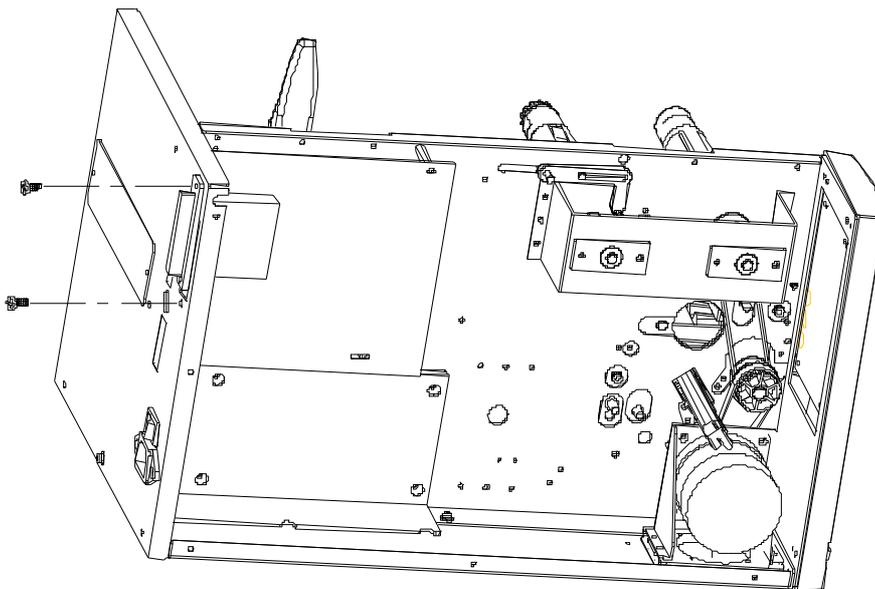

Figure 9.5
3. Release the 2 screws on centronics (Figure 9.5).